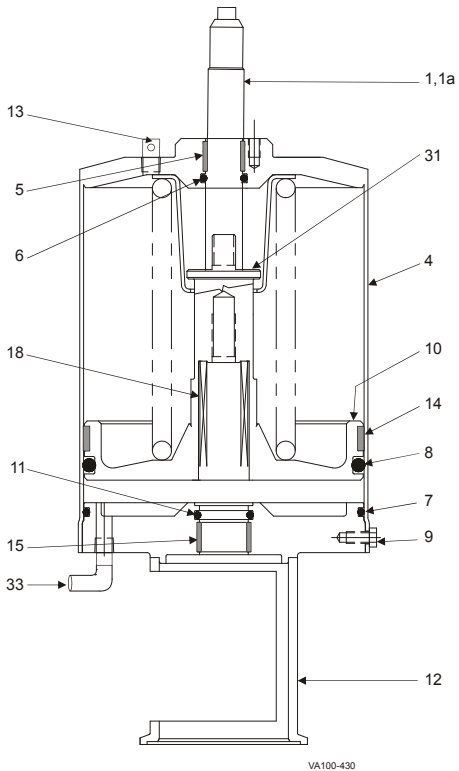

Figure 26 - W71/W73 Actuator Assembly (Non-Seat Lift Valve)
1. For non-seat lifting valves, remove the cap screws (Figure 26, item 9) and remove the yoke (item 12) from the cylinder assembly. Set the yoke aside.
2. Pull the piston and spring assembly (Figure 26, item 10) from the cylinder assembly.
3. Inspect the four o-rings (Figure 26, items 6, 7, 8, and 11). Replace them if they are worn or damaged.
4. Inspect the three bearings (Figure 26, items 5, 14, and 15). If the bearing does not extend slightly above the edge of the metal surface, replace the bearing.
6. For non-seat lifting valves, assemble the stack components as shown in Figure 26. Install the yoke and cap screws.
3. Remove the small spring (Figure 27, item 18). On W71/W73 valves, also remove the bushing (Figure 26, item 28).
4. Pull out the upper cartridge (main piston, item 22; lower seat spring and piston, item 10), by carefully threading in the lower stem to pull it. Do not bend the lower stem.